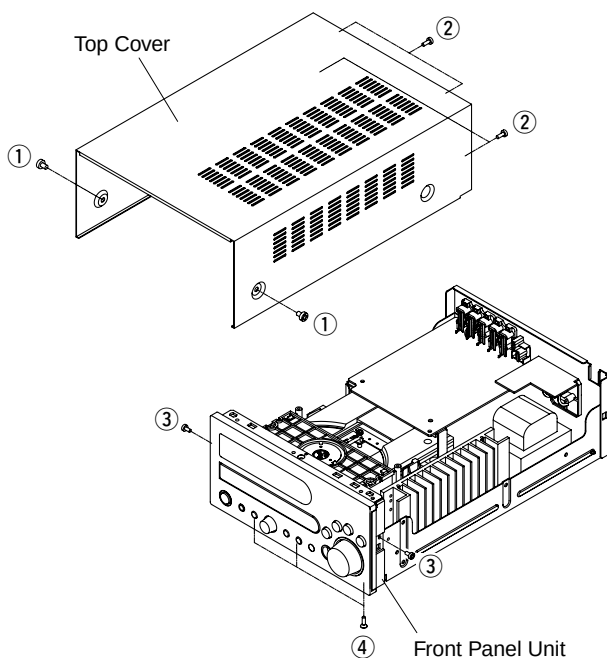

Fig. 1
- a. Remove 2 screws (①) and 4 screws (②). (Fig. 1)
- b. Slide the Top Cover rearward to remove it. (Fig. 1)
- b. Remove 2 screws (③) and 3 screws (④), and then remove the Front Panel Unit. (Fig. 1)